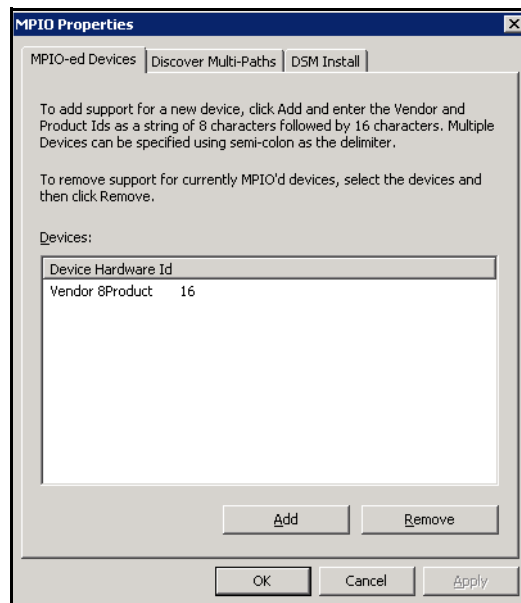

Figure 2-2: MPIO Properties Dialog Box
2. Point to **Administrative Tools** and click **MPIO**. The **MPIO-ed Devices** tab of the MPIO Properties dialog box appears. In this panel, the **Device Hardware Id** field shows the IDs of the MPIO hardware devices installed. The first time this dialog box appears, the default string in Figure 2-2 on page 2-9 is displayed to indicate that the vendor ID is limited to 8 characters and the product ID is limited to 16 characters.